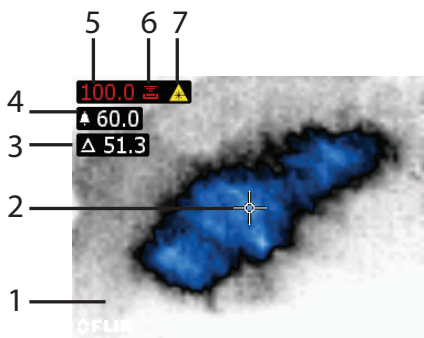
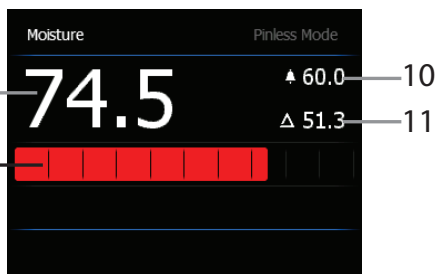

Fig. 5-1 IR + Moisture Image
Fig. 5-2 Moisture reading only
Moisture readings are shown on the display (digitally and with bar graph) in the Moisture-only mode or in small digits (upper left hand corner) in IR + Moisture mode. See Fig. 5-1 and Fig. 5-2. Pinless measurement readings are relative scaled (0~100) while pin-based readings are represented in %WME (percent wood moisture equivalent) 0~100%.
Most of the MR160 operations are represented in the icons and displays shown in Fig. 5-1 and Fig. 5-2 below. Other operations are covered in the context of each section of this User Guide.
3. The relative moisture reading is displayed on the main display in the upper left hand corner (IR + Moisture mode) or as bargraph with accompanying digits (Moisture-only mode). Refer to example screens shown in Fig. 5-1 and Fig. 5-2.
5. The moisture reading is displayed on the main display (in %WME) in the upper left hand corner (IR + Moisture mode) or as a bargraph with accompanying digits (Moisture-only mode). Refer to example screens shown in Fig. 5-1 and Fig. 5-2.
2. When the SET REFERENCE mode is selected a new display line will appear preceded by a delta (triangle) symbol. The digits next to the triangle symbol indicate the reference value (the measurement recorded when the SET REFERENCE mode is selected). Refer to example screens shown in Fig. 5-1 and Fig. 5-2.
4. The reference value is displayed on the main display in the upper left hand corner (IR + Moisture mode) or to the right of the bargraph (Moisture-only mode). Refer to example screens shown in Fig. 5-1 and Fig. 5-2.
6. When the High Alarm is set ON, the main display will show the alarm bell icon (shown above) and the High Alarm threshold value. Refer to example screens shown in Fig. 5-1 and Fig. 5-2.